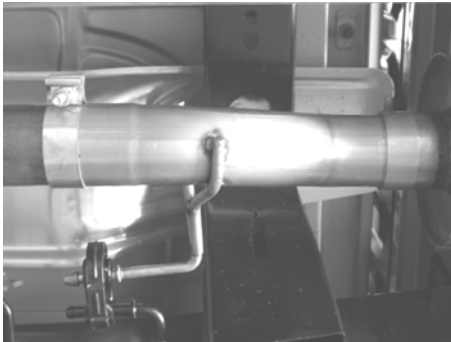

Figure 7
1. Place a clamp over the expanded end of the correct front pipe assembly for your vehicle and place it into position as shown in figure 7 installing the hanger in to the rubber bracket. DO NOT tighten the clamp.